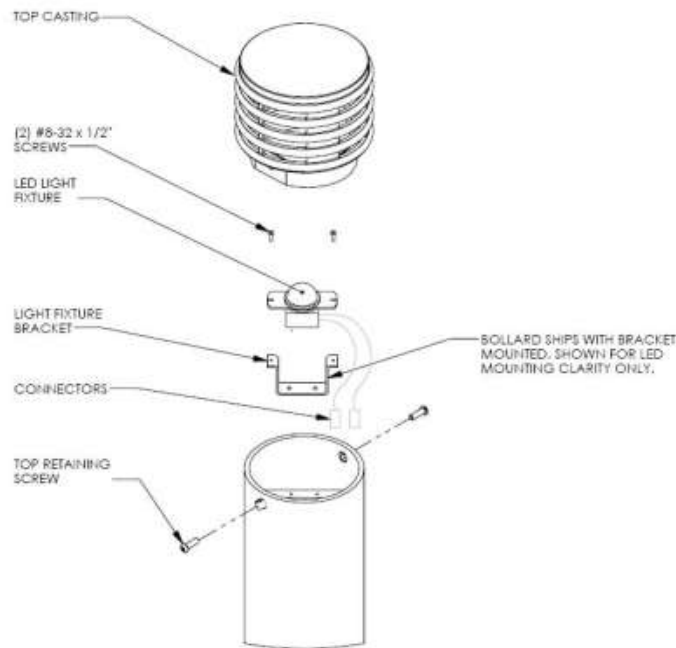

Figure 5.
1. Remove two top retaining screws and top casting (see Figure 5).
3. Remove (2) #8-32 X 1/2" button head cap screws from LED light fixture.